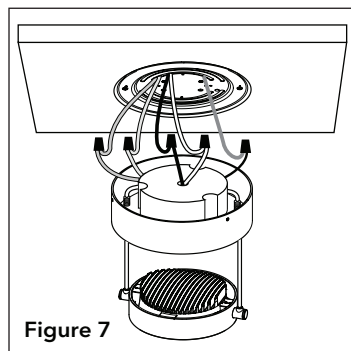

Figure 7
Step 7. Connect dimming wires from ceiling to dimming wires from canopy power supply (Fig. 7).